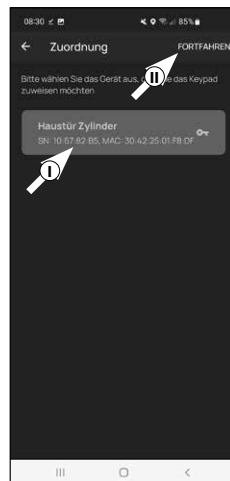

Fig. 11
12 The app displays a list of the cylinders that have already been registered. Select the cylinder required (I) (Fig. 11) and tap on „Continue“ in the top right-hand corner